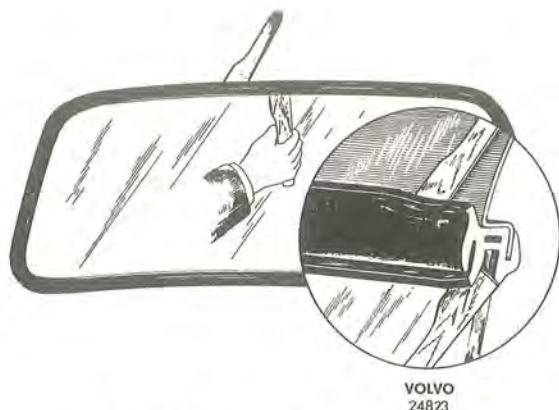

Fig. 8-19. Removing the rubber strip
3. Release the rubber strip both from the windshield and sheet metal by inserting a wooden putty knife moistened in synthetic washing solution (the putty knife should be moistened now and then during the course of the work) between the rubber strip and windshield and between the rubber strip and sheet metal respectively and moving it all round as shown in Fig. 8-19.